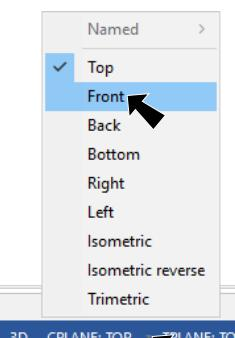

Fig. 23
Step 8. Change **CPlane** to **Front**. Click **CPLANE** in Status bar at bottom of the graphics window and click **Front** from the menu, Fig 23.